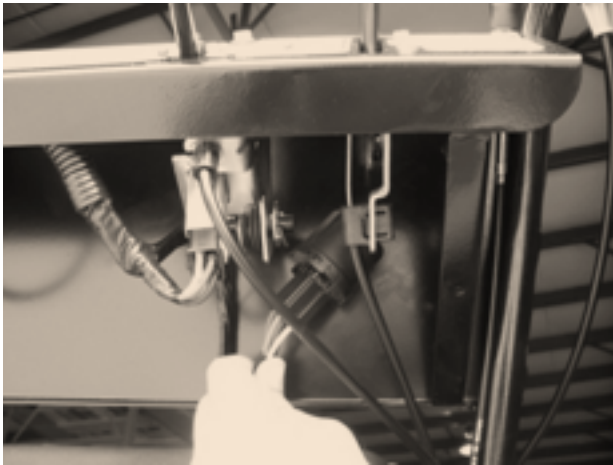

Figure 27
3. Reach under dash panel and pull ignition switch out **Figure 27**.